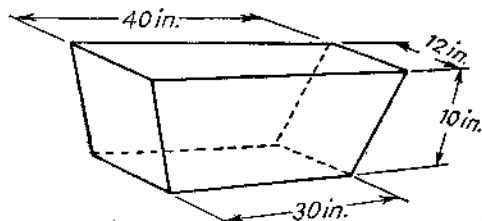

Fig. 73
(4) A gallon of water weighs 10 lb. A cubic foot of water weighs 62½ lb. A tank of dimensions shown in fig. 73 contains water to within